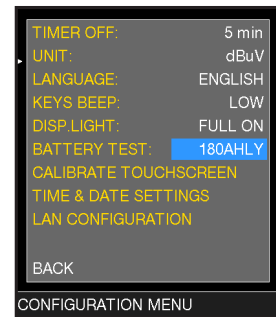

FIG. 3*
4. To check the battery test results, enter once again into "meter" in the "configuration menu" and read the results (Fig. 3):
- for example 265BFEY (fig.3) = 265 minutes.The "Y" of YES confirms that the battery is still good enough, whereas an "N" for NO indicates that it could be faulty, too deteriorated or that the cycle was interrupted.